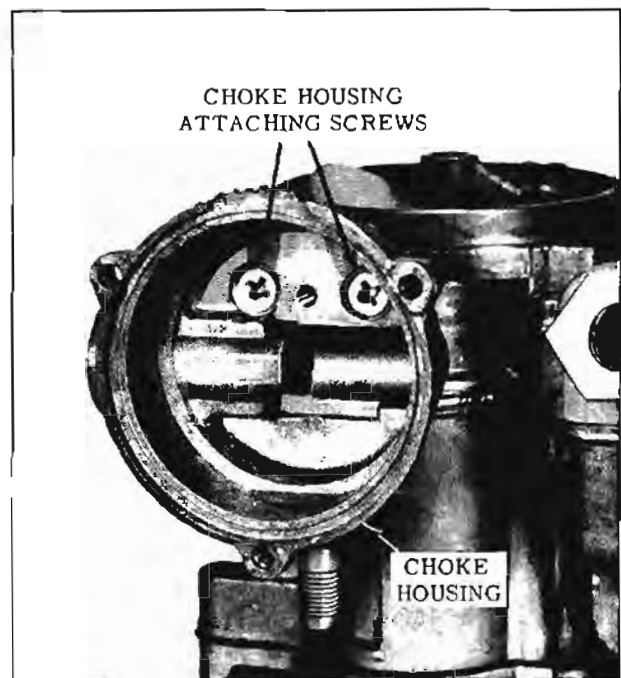

Fig. 9-149 Choke Housing Attaching Screws
7. Remove 2 choke housing attaching screws and remove choke housing. (Fig. 9-149)